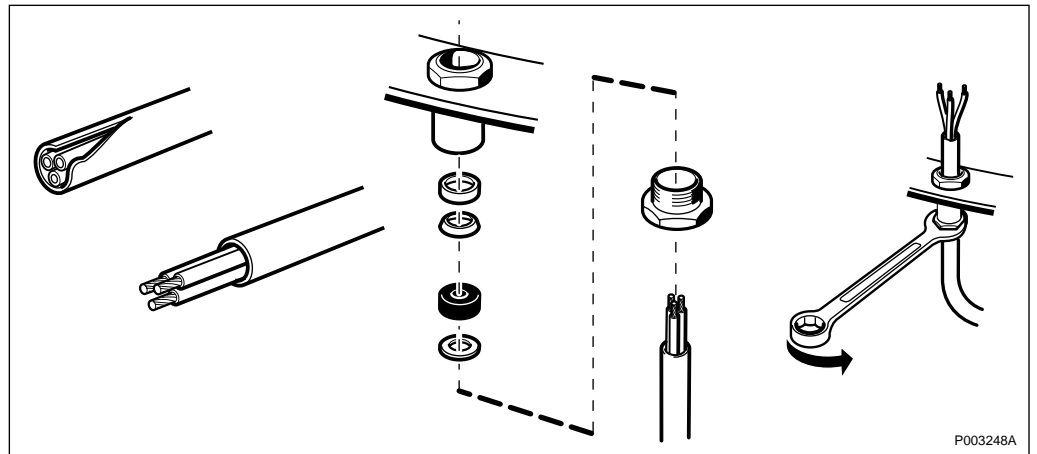

Figure 54 Dismantling and mounting the cable inlet
5. Mount all cable inlet details, *see Figure 54 on page 83.*